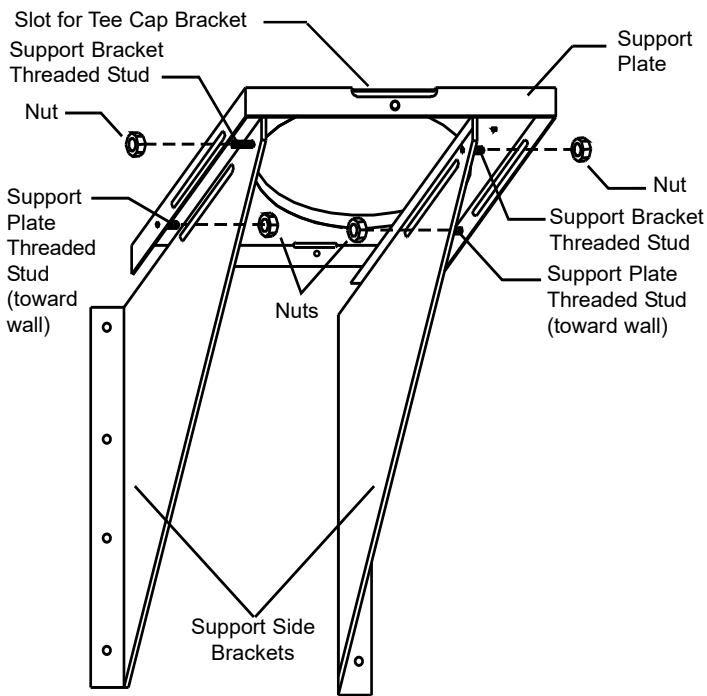

FIGURE 14 - UNDERSIDE VIEW OF THREADED STUDS AND NUTS
The Wall Support will allow for an adjustment of 2" to 6" from a vertical wall. Threaded studs are factory installed on both side brackets and the support plate for fast and easy assembly (see Figure 14).
5. Assemble the 2 side Brackets (point of triangle facing down) to the Support Plate (flange up and threaded stud towards the wall) by inserting the threaded studs into the oblong slots (see Figures 14 & 15). Install the supplied nuts on the threaded studs until snug, do not tighten at this time as adjustments may be required. Set aside and prepare the support bracing to secure the side brackets as per the Framing Dimensions in Section B of Table 3 and Figure 13 (B).